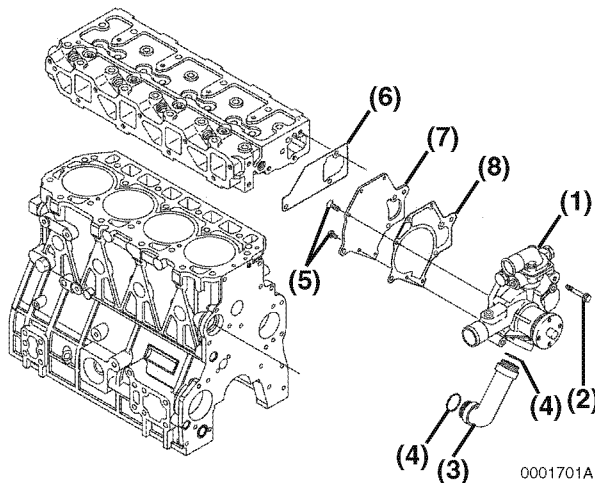

Figure 8-7
1. Remove the engine coolant pump bolts (**Figure 8-7, (2)**). Remove the engine coolant pump (**Figure 8-7, (1)**). Discard the gasket (**Figure 8-7, (6)**).
2. Remove coolant pump pipe (**Figure 8-7, (3)**) from engine block. Discard the O-rings (**Figure 8-7, (4)**).
3. Remove the bolts (**Figure 8-7, (5)**) holding the cover (**Figure 8-7, (7)**) on the pump. Discard the gasket (**Figure 8-7, (8)**).